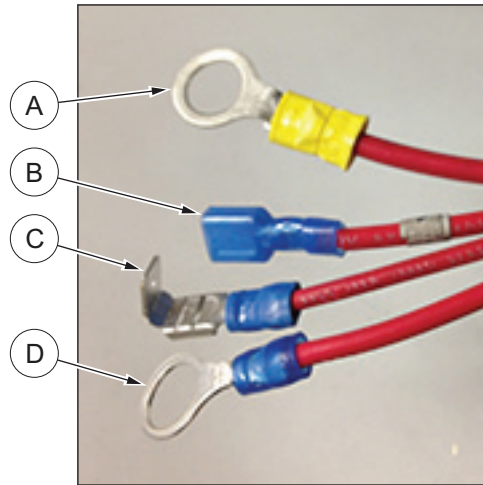

Figure 31 - Starter Wires
- j. See Figure 31. Connect red wires to starter, as follows.